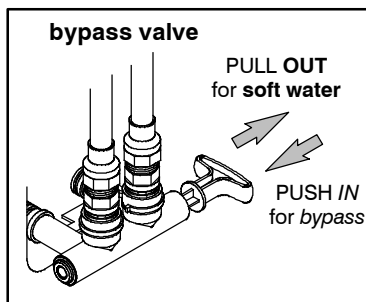

Figure 1
1. Push the bypass valve in for bypass. **Figure 1.**
13. Plug in transformer. Pull the bypass valve stem out for soft-water position. **Figure 1.**